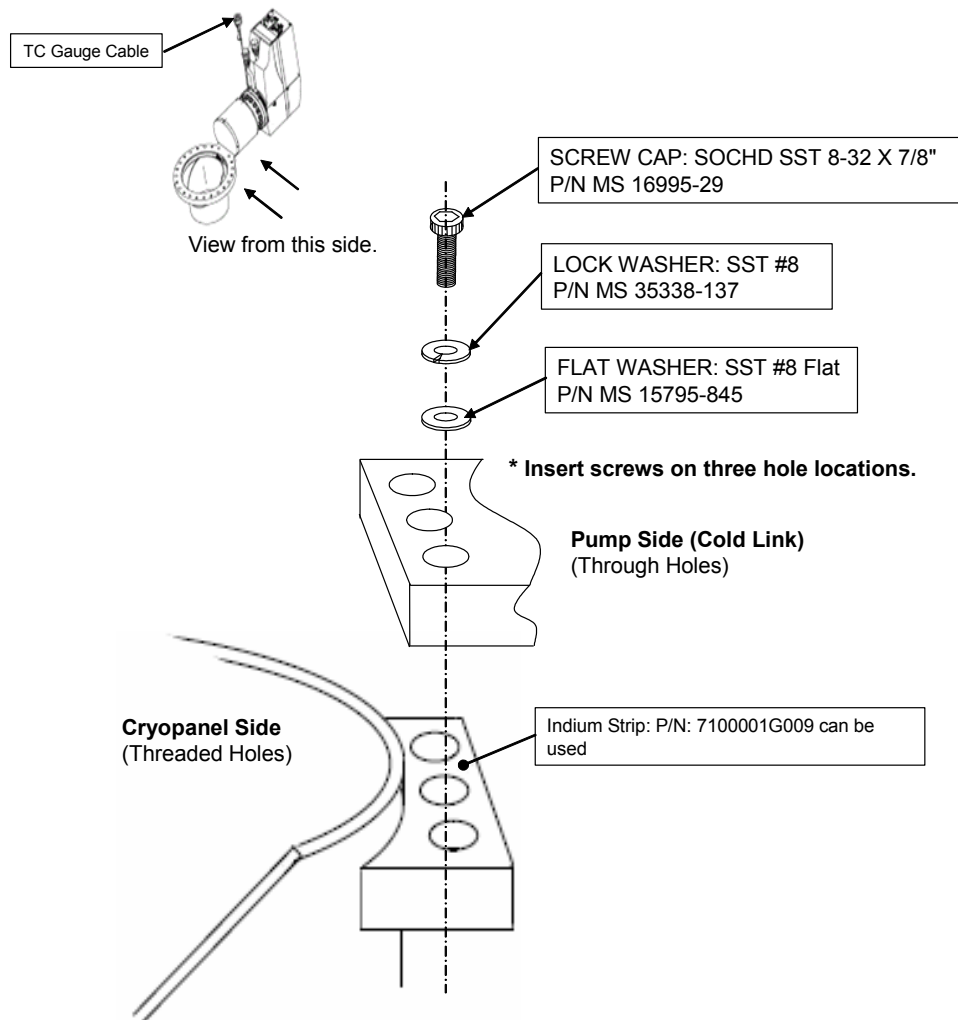

Figure 1: Attach Cryopanel to Waterpump
1. Insert screws in the three holes (see Figure 1:)